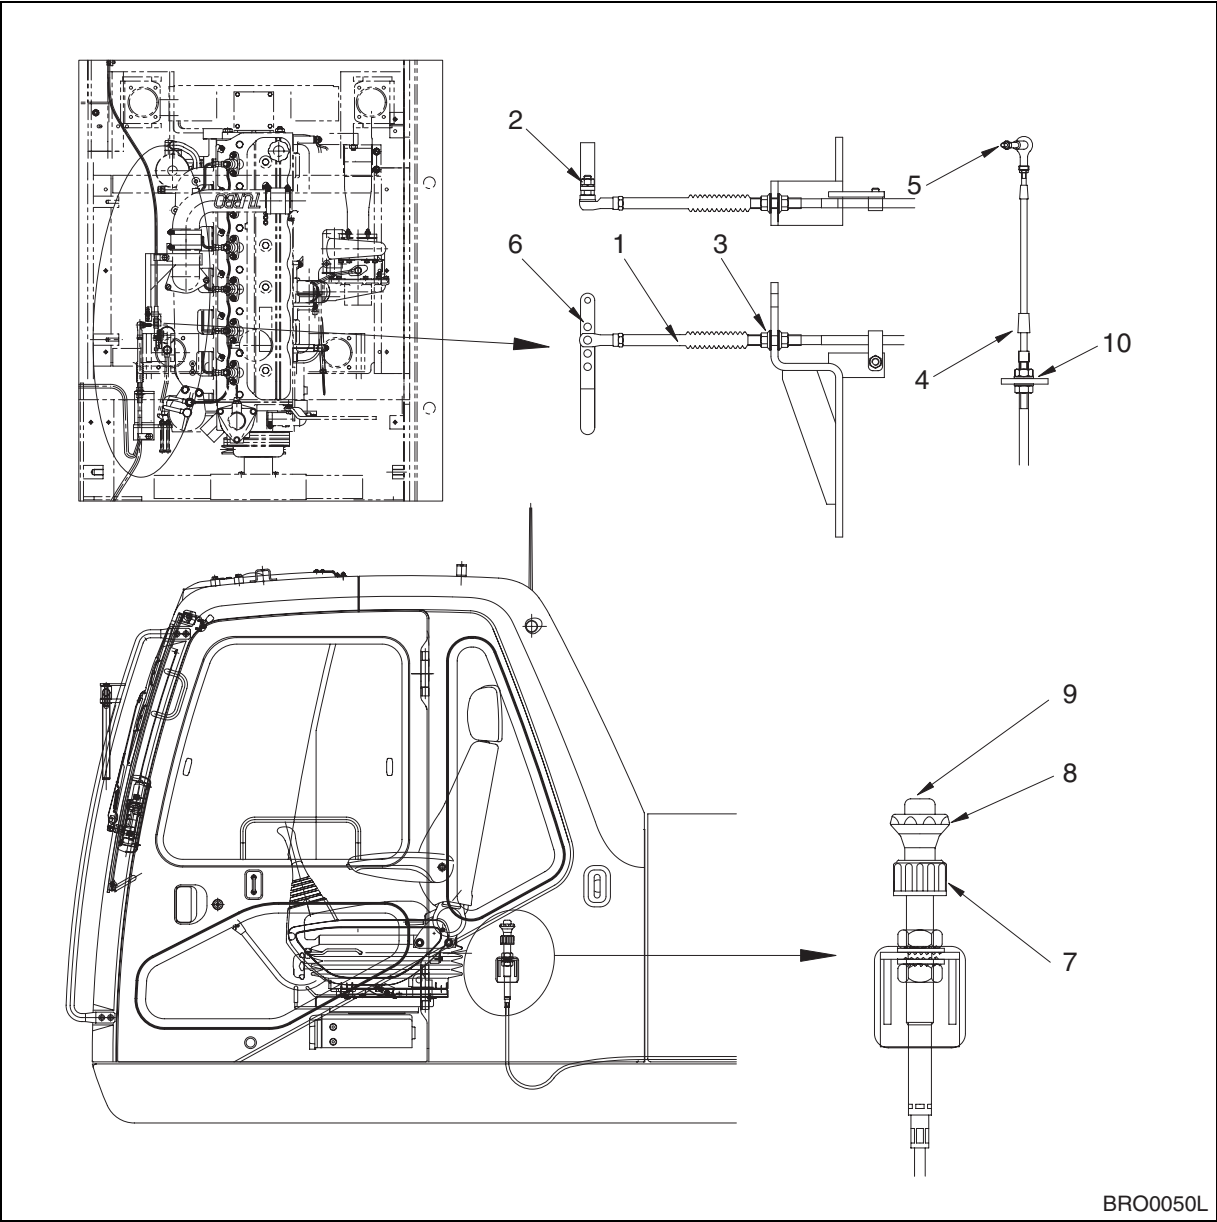

Figure 44
7. Disconnect control cable (1, Figure 44) by removing nut and spring washer (2) and loosening the nuts (3) holding cable to bracket.
8. Remove nut and spring washer (5, Figure 44) from manual engine control cable (4) and loosen the nuts (10) holding cable to bracket. Attach manual engine control cable ball joint to hole (6) by using nut and spring washer (5).
11. On the rear of left control stand in cabin is a vernier caliper throttle control. The throttle control is a push/pull and/or screw type assembly. The locking collar (7, Figure 44) at base of mechanism must be turned to the released position before the throttle can be adjusted. Quick adjustment of engine speed can be made by turning the locking collar to the "RELEASED" position and "DEPRESSING" the button (9) (in center of knob (8)). Pulling the knob "OUT" increases rpm's, or pushing it "IN" decreases rpm's. Fine adjustment of engine speed can be made by turning the knob. Turn knob counterclockwise to increase engine speed and clockwise to decrease engine speed. Once the desired rpm is obtained, turn the locking collar (7) to the locked position.